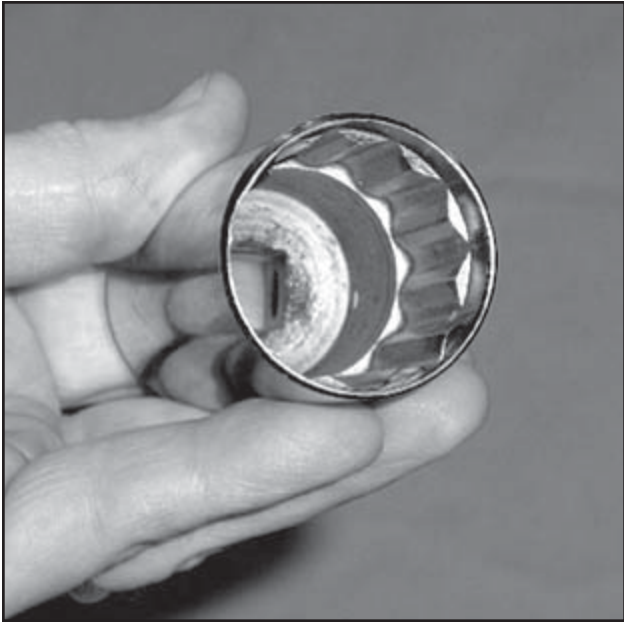

FIGURE 3-67
**NOTE:** Cartridges without a hex nut must use special tool No. 21891 to remove and reinstall the "B" and "C" Cartridges. See Figure 3-67